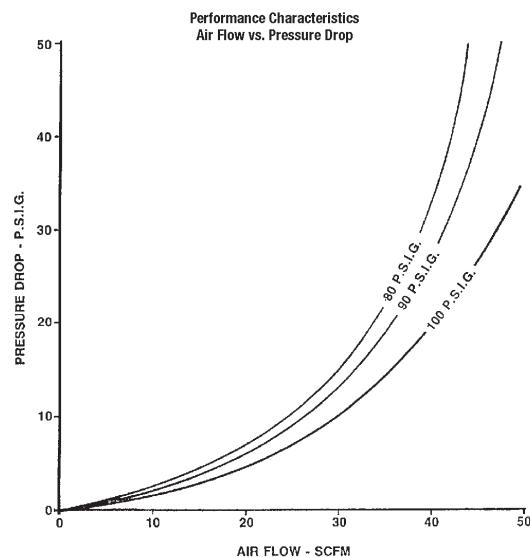

Fig. 2
The 3M filter and regulator panel with CO filtration is supplied with quick-disconnects at the outlet for connection of up to four (4) supplied air respirators. The actual number of respirators that may be connected to the filter and regulator panel is dependent on the inlet pressure to the panel and the airflow and pressure requirements of the respiratory protection. (Fig. 2) As the air passes through the panel there is resistance to flow called pressure drop. The more airflow through the filter and regulator panel, the greater the pressure drop. The air control devices approved for use with the 3M respirators must be operated within the supply pressure ranges and hose lengths stated in their *User Instructions*. Use Figure 2 along with information on the maximum airflow consumption, supply pressure ranges, and approved hose lengths as stated in the *User Instructions* for the 3M air control device to determine the number of respirators of a specific type that may be connected to the panel.